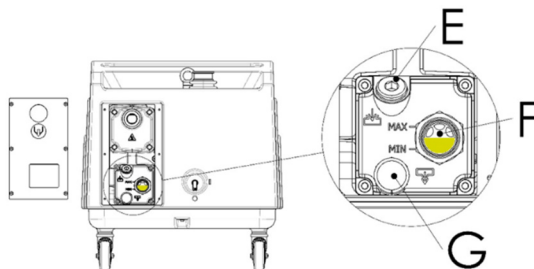
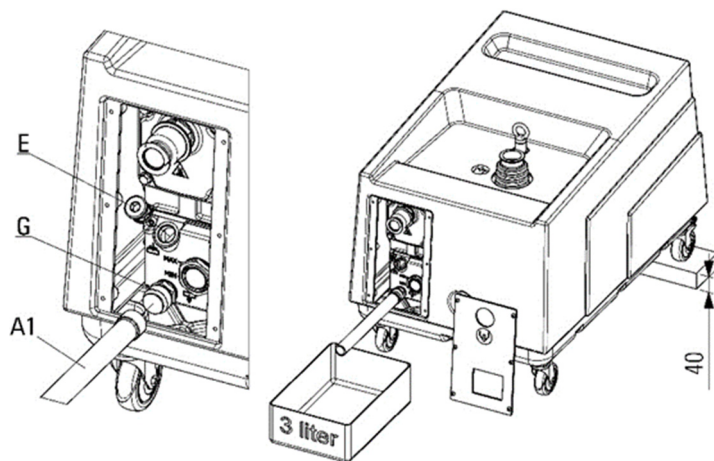

Figure 68
Figure 69
Please refer to Figure 68 Unscrew the oil filling plug (E) and the discharge plug (G) only after having placed underneath the pump tank a suitable container suitable container (see Figure 69 proper size and shape) for collecting the total quantity of oil.